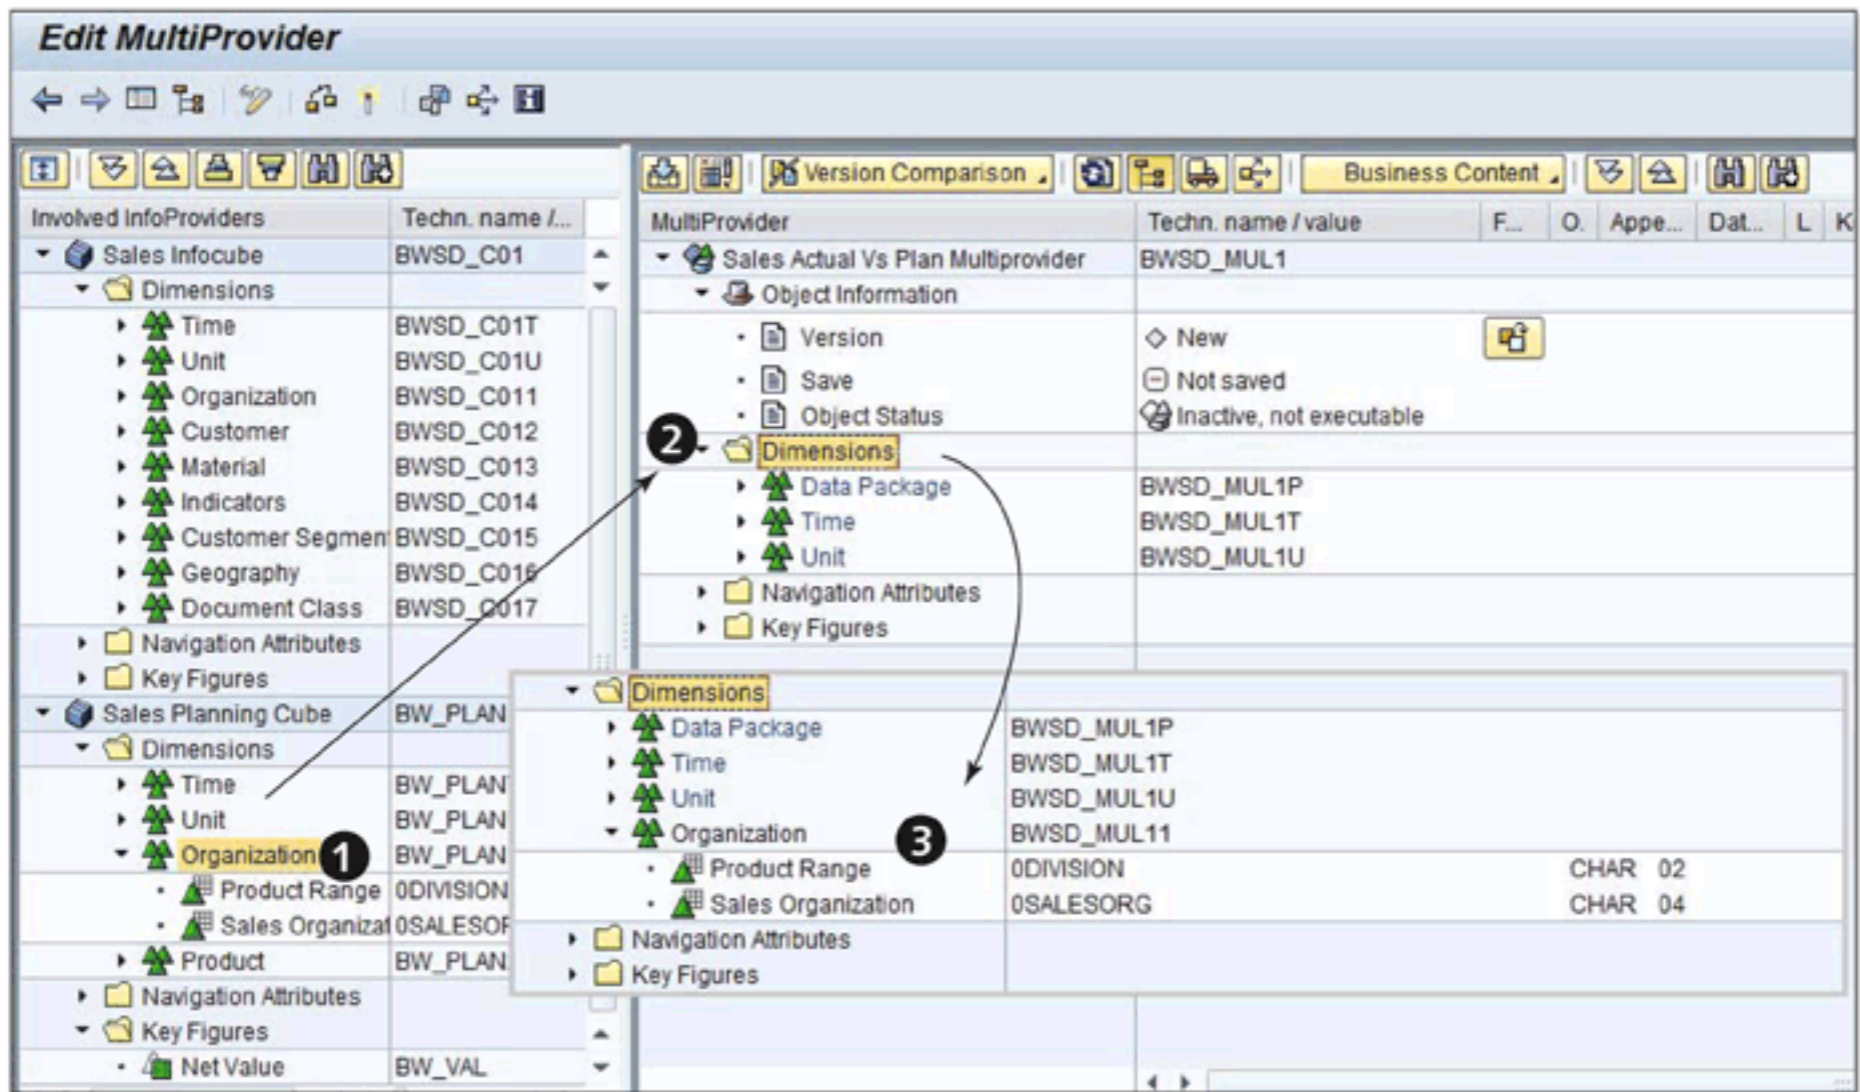

Figure 6.8 Edit MultiProvider: Drag and Drop Dimension
You can either create new dimensions or directly drag and drop dimensions from any of the InfoCubes, as shown in Figure 6.8. As shown in ❶ of Figure 6.8, select the ORGANIZATION dimension and drop it over DIMENSION (❷). The outcome of this activity is that the ORGANIZATION dimension is available in MultiProvider BWS_D_MUL1, with both the characteristics (SALES ORGANIZATION and PRODUCT RANGE) of the base InfoCube (BW_PLAN) (❸).